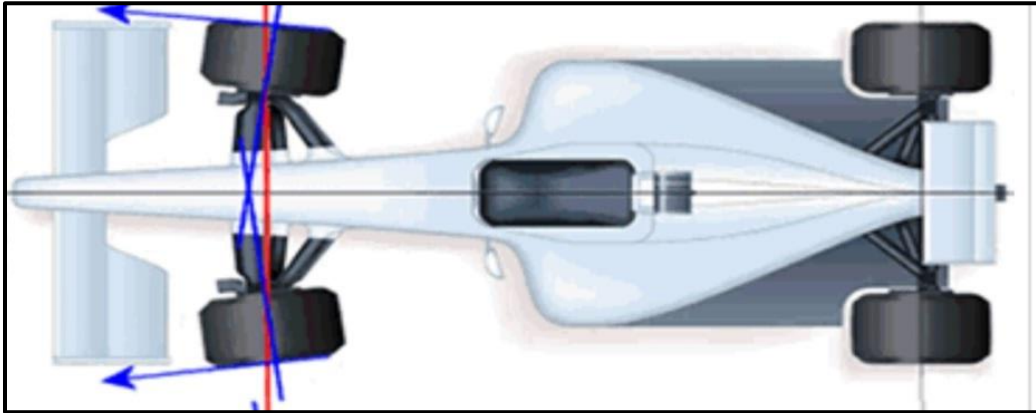

FIGURE 10.8
- 10.8 Identify the type of car wheel alignment shown in FIGURE 10.8 below.
- 10.9 What is the purpose of the car alignment shown in FIGURE 10.8 above? (2)